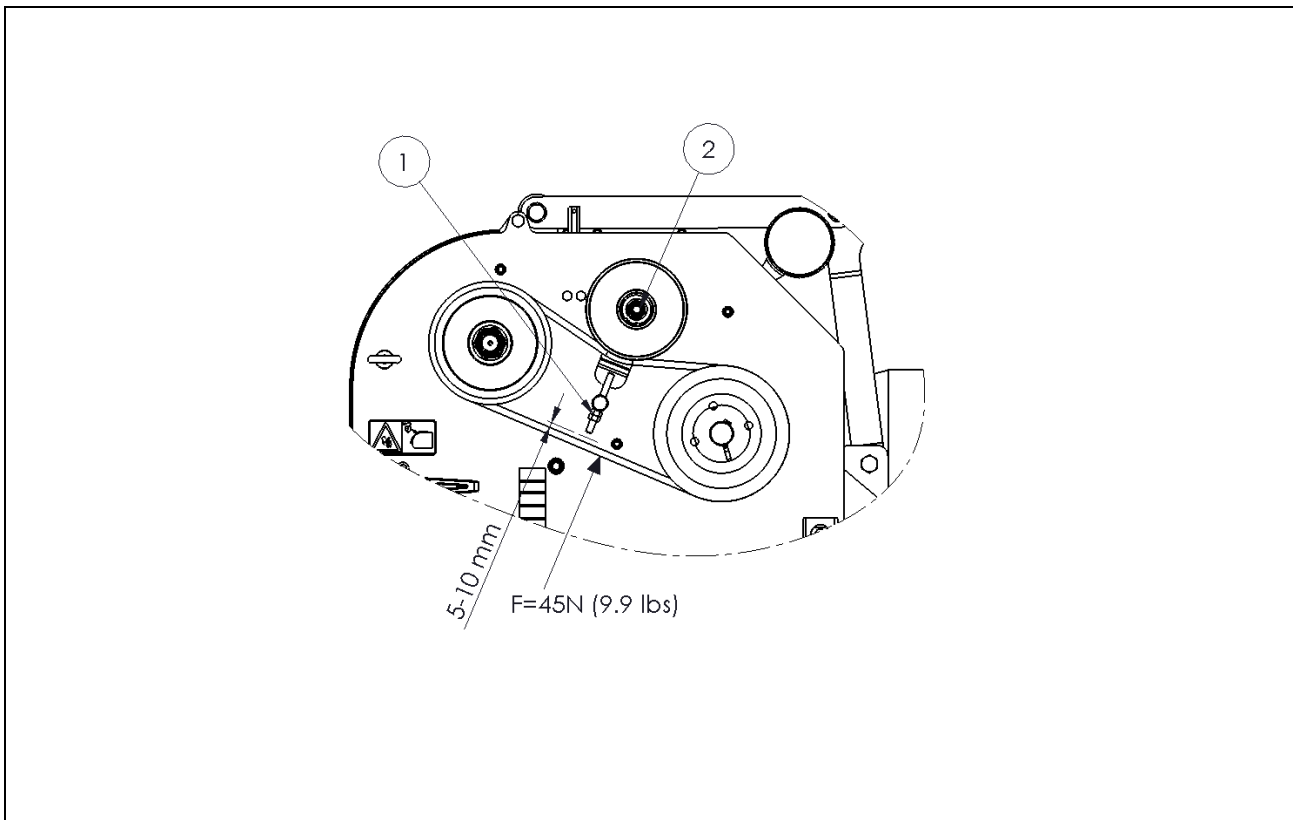

Fig. 14
2. Apply a force of 45 N (9.9 lbs.) on the centre of the bottom part of the belt, see Fig.14.
5. Unscrew the nut (2) at the front of the tensioner.
6. Turn the nut (1) until you reach the right tension.
7. Tighten the nut (2).